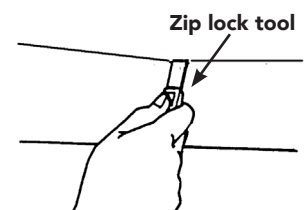

Figure 77
- Use the unlocking tool again to zip the upper panel over the lock on the new panel (Figure 77).